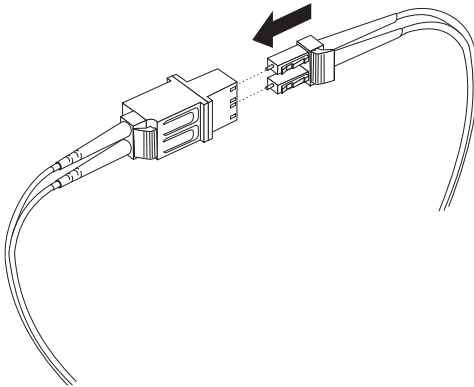

Figure 26. Connecting an LC-LC cable into the LC-SC cable adapter
4. Carefully insert the other end of the LC-LC cable into the LC connector end of the LC-SC cable adapter as shown in Figure 26. Push in the connector until it clicks into place.